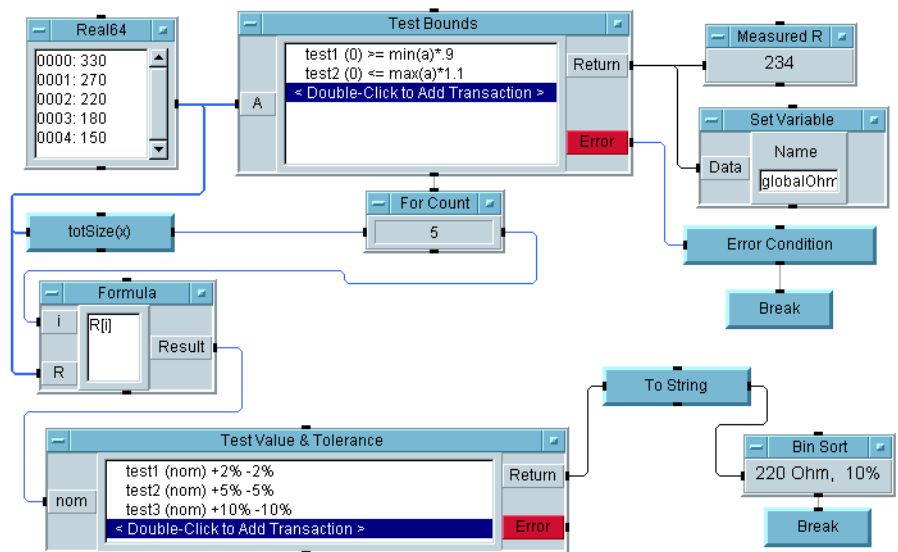
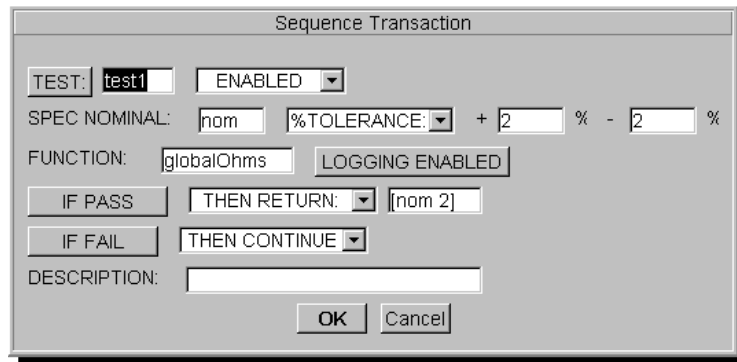

Figure 14-14. Improved Bin Sort Example
Figure 14-17. `globalOhms` Transaction
Although this approach is simple, it is not very efficient. You would need to create quite a large number of sequence transactions to test several resistance values, with three tolerances in each case. Figure 14-14 shows an improved version of the "bin sort" example.
Since the `UserFunction simResist` is only called once, you can replace it with a call to a different `UserFunction`. The example (`manual46.vee`, Figure 14-14) contains a second `UserFunction`, called `measResist`, which uses a `Panel Driver` to call an HP 3478A Digital Voltmeter configured for resistance measurements. If you have an HP 3478A meter, connect it via GPIB, change the `FORMULA` field in `test1` to the expression `measResist()`, and run the program.
- Regardless of whether simulated or measured resistance values are taken, the `Test Bounds` return value is displayed and is set as a global variable (`globalOhms`). For example, the three transactions in the `Sequencer` labeled `Test Value & Tolerance` (Figure 14-14) each call this global variable using the expression `globalOhms`. Figure 14-17 shows the first transaction expanded.